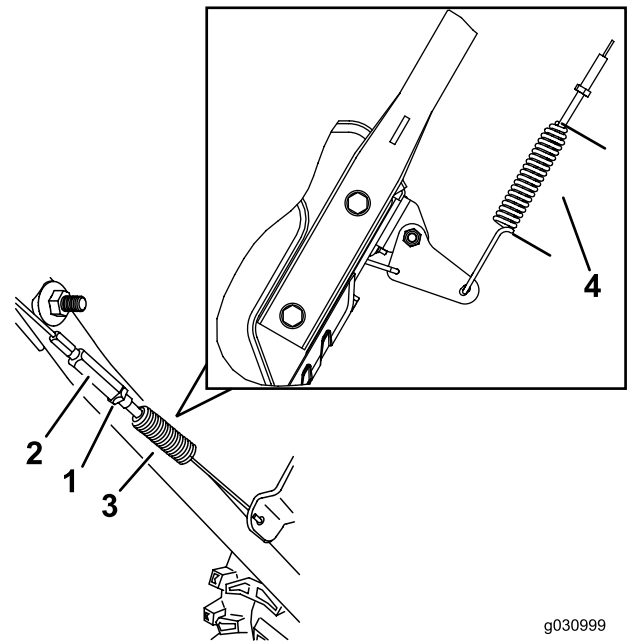

Figure 27
3. Loosen or tighten the turnbuckle to adjust the spring length to 5.5 cm (2–3/16 inches) as shown in Figure 27.
4. Tighten the jam nut (Figure 27), ensuring that there is slight tension on the cable.